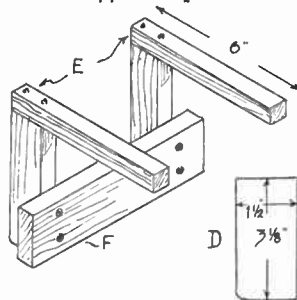
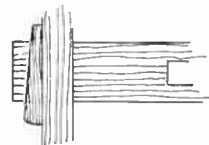

Fig. 2—Details of the fence
Fig. 3—How the wedges are fixed
For the fence, shown in isometric projection in Fig. 2, a couple of $\frac{3}{4}$ in. square holes must be cut through the body. Mark the position of these accurately, and first bore out $\frac{3}{4}$ in. holes straight through with a centre bit, and chop out the corners with a chisel. On the other edges of these holes cut sloping slots for wedges. These can be $\frac{1}{2}$ in. by $\frac{1}{2}$ in. on the front, and $\frac{1}{2}$ in. square at the back. For them provide a pair of wedges, as in detail Fig. 3.
From Fig. 2 the shape of the fence will be made clear. Cut the slides (E) $\frac{3}{4}$ in. square and 6 ins. long. Plane to size very accurately and glasspaper as may be
Next prepare two pieces 4ins. by 3ins. by 1/2 in. by marking across the top of each piece a line 1in. down from the top as in Fig. 2. In the exact centre of each line a hole must be drilled; in one piece 3/16 in. to take the handle of the drill, in the other 1/4 in. to hold the drill next the chuck.
Piece (A) with 3/16 in. hole, is glued and screwed to the left hand end of the base, and piece (B) (1/4 in. hole) on the base at a distance of 4 1/2 ins. from piece (A) (see Fig. 3). Now two strips 1/2 in. by 1/2 in. are glued and screwed to the edges of the base from piece (B) to the end of the base to raise the upper bed 1/2 in. from the base.